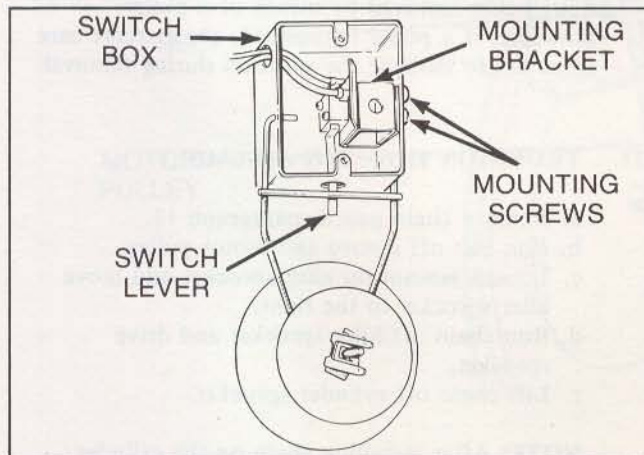

Figure 15
- c. Remove two Phillips head screws holding switch and mounting bracket to switch box, *Figure 15*.
- d. Remove two screws holding switch to mounting bracket, *Figure 15*.